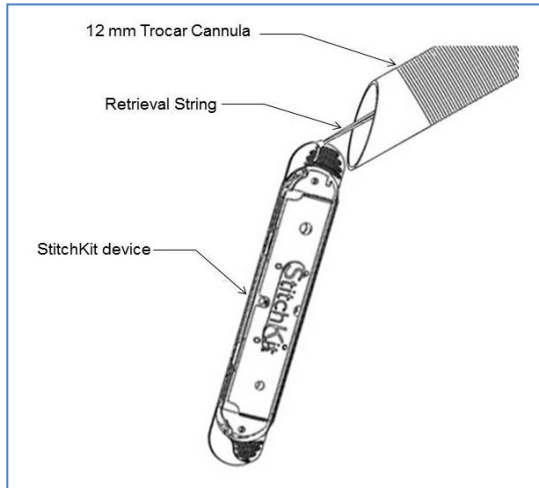

Figure 6 - Pulling out device through trocar using retrieval string
- 7.3. The device can then be pulled out from the body through the trocar. See Figure 6.